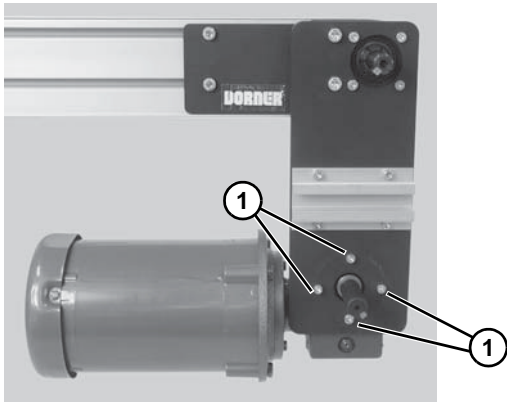

Figure 20
5. Remove four (4) gear reducer mounting screws (**Figure 20, item 1**). Remove gearmotor.
- Install gearmotor to mounting bracket and tighten screws (**Figure 20, item 1**) to 110 in-lb (12 Nm).